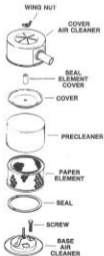

FIGURE 21
- Unscrew Wing Nut (Fig. 21) to remove Cover.
Refer to step 7 in 25 Hour Service (Fig. 21).